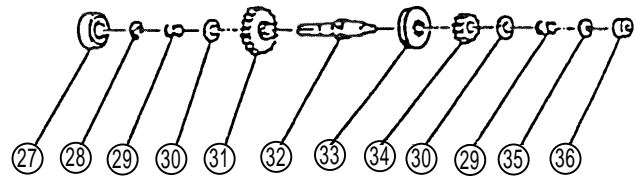

Fig. 17
(4) Reassembly of the Second Pinion Portion:
- [1] Assemble the parts from the Ball Bearing ②⑦ to the D4 x 7 Metal ③⑥ in proper sequence. (Fig. 17)